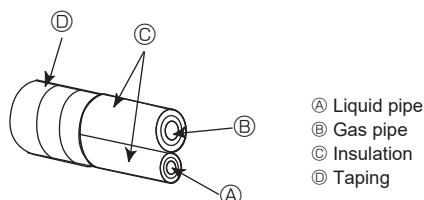
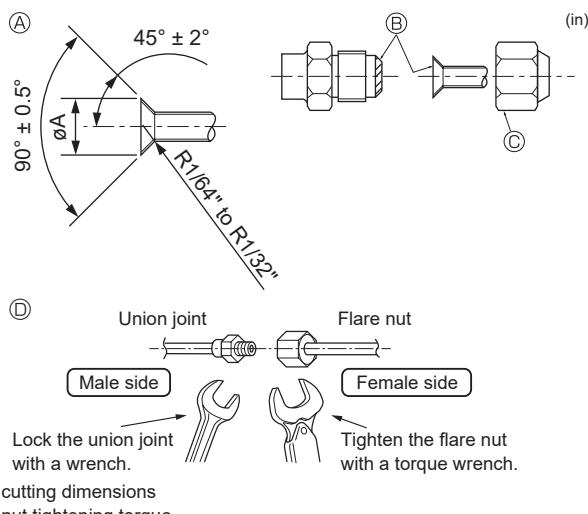

Fig. 4-6
Fig. 4-7
4.3. Connecting pipes (Fig. 4-6) (Fig. 4-7)
- The indoor parts of the drain pipe should be wrapped with polyethylene foam insulation materials (specific gravity of 0.03, thickness of 9 mm (3/8 inch) or more). [Fig. 4-7]
- Apply thin layer of refrigerant oil to pipe and joint seating surface before tightening flare nut. ④
- Apply refrigerating machine oil over the entire flare seat surface. ⑤
- Use the flare nuts as follows. ⑥
- Use 2 wrenches to tighten piping connections. ⑦
- ① Pipes must be connected starting from the indoor unit.
④ (Fig. 4-7)